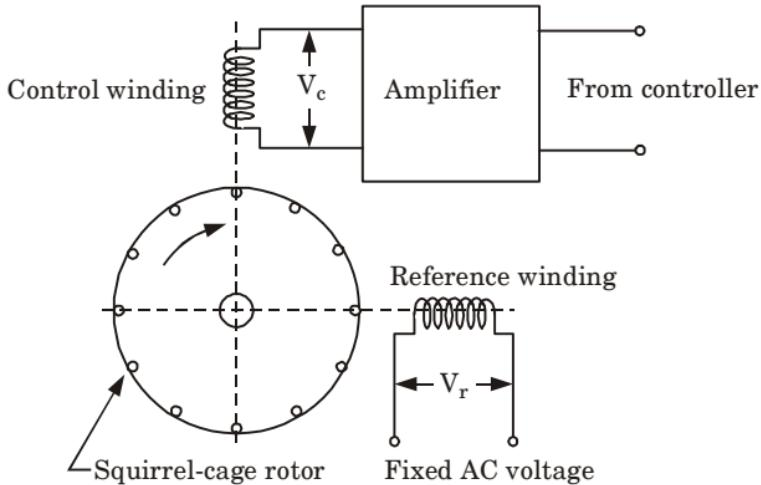

Fig. 1.5.1.
1. Fig. 1.5.1 shows the schematic diagram of a 2ϕ AC servomotor.